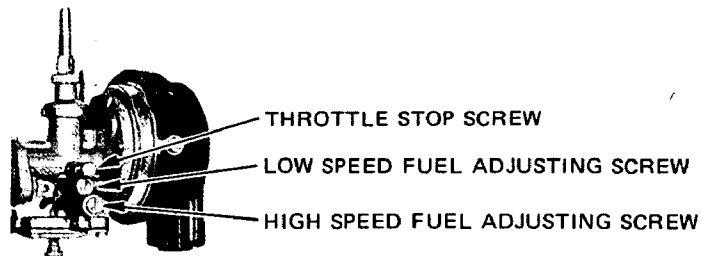

Fig. 18
1) Idle adjustment (See Fig. 18) EC02-A, EC02-R
2) Fuel flow adjustment (See Fig. 18) EC02-R